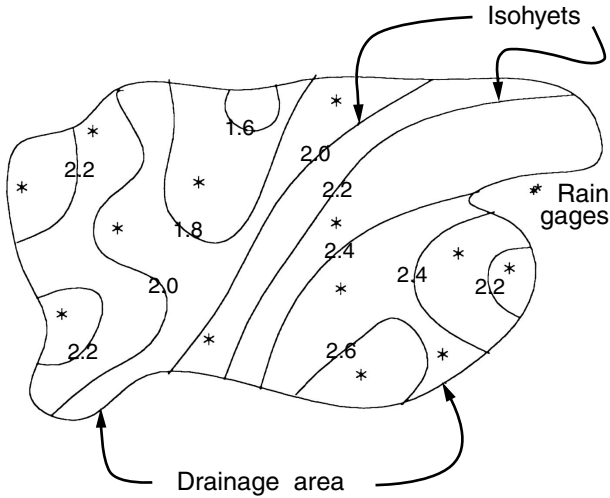

FIGURE I-3 Isohyetal map.
**Isohyet** (From the Greek prefix *isos* meaning equal, similar, and the Greek word *hyetos* for rain.) An imaginary line on the earth's surface or a line on a map connecting the points of equal precipitation during a given time period or for a particular storm event. Also a line or contour of equal concentration. See Figure I-3.
**Isohyetal map** A map of contours of equal rainfall (isohyets); indicates the distribution of precipitation over an area during a given period. See Figure I-3.